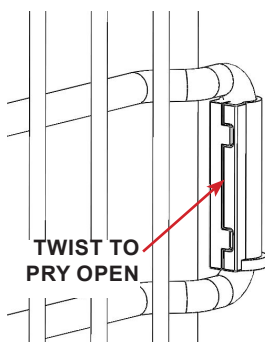

FIGURE 3.11 - Remove Hinge Bushing
**STEP 9:** Use a flathead screwdriver to pry, separate the two hinge bushing halves. See FIGURE 3.11 & 3.12